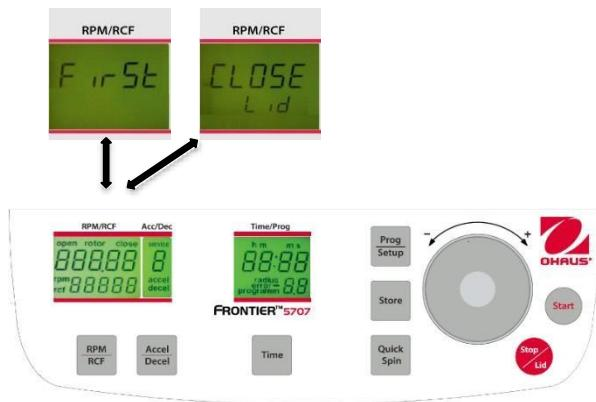
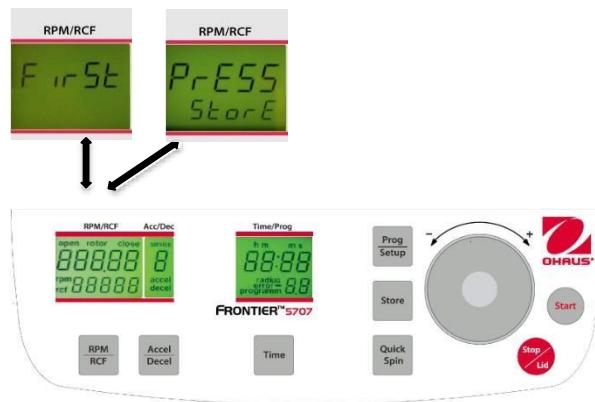

Figure. 21
Figure. 22
Close the lid of the centrifuge. Now proceed as described previously to set all important run parameters. If the lid isn't closed when storing the program, in the display "RPM/RCF" (A-1), the words "FirSt" and "CLOSE Lid" (See figure 21) flashes alternately. If you want to start the run without storing the program, in the display "RPM/RCF" (A-1), the words "FirSt" and "PrESS StoreE" (See figure 22) flashes alternately.
For adaption of data press the key "**Store**" (2) (refer to figures 21 and 22) for approx. 1 second. If the program is stored correctly, the word "**StorE**" appears in the display "**RPM/RCF**" (A-1). As a result, the word "**programm**" (M10) disappears.